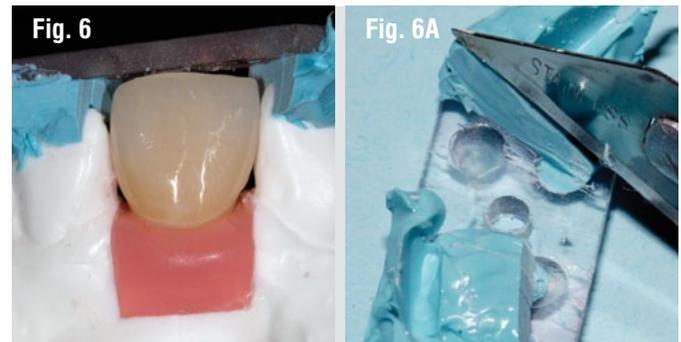

Fig. 6: Check the PILD seats when the crown is in place on the model. It should not rock. **Fig. 6A:** Cleaning the embrasures with a blade is usually necessary.
10. Finally, make sure that the device will fit correctly when the restoration is put on the abutment (Fig 6). If not, clean the embrasure areas next to the crown as the Blu-Mousse may be preventing it from seating at this site. (**Tip:** a sharp surgical blade does this nicely [Figs. 6-6A]. If you feel you would like to make the PILD even more stable, add a little more Blu-Mousse to the area of the crown (Fig. 7). Finally, using a blade, trim the PILD carefully (Fig. 8) (**Tip:** do not block the trajectory hole).